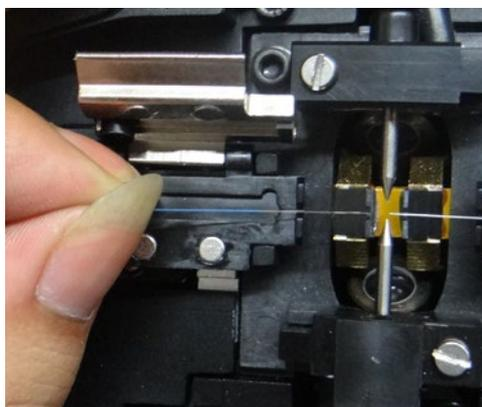

FIGURE 5.1
1. Place the fiber with good endface into the V groove to remove the pollution, shown in figure 5.1.